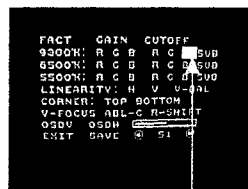
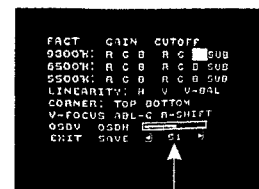
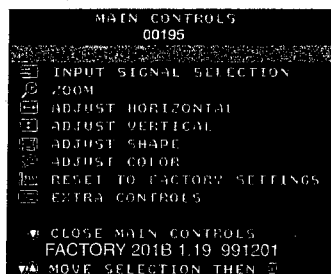

Fig. 2.2
Fig. 2.3
Fig. 2.1
Step 1: To select the character "FACTORY MODE" as shown in Fig. 2.1, press " " to access the OSD menu for R/G/B gain & cutoff as shown in Fig. 2.2.
Step 2: Press " " for function selection as shown in Fig. 2.3.
Step 3: Use " " to increase or decrease the value as shown in Fig. 2.3.
: Press " " to show the OSD menu as shown in Fig. 2.1.
: Select the character "FACTORY MODE" to access the R/G/B adjustment as shown in Fig. 2.2 and Fig. 2.3.
7.6 : Select the 6500K colour temperature as shown in Fig. 2.2.
7.7 : Select the 5500K colour temperature as shown in Fig. 2.2.